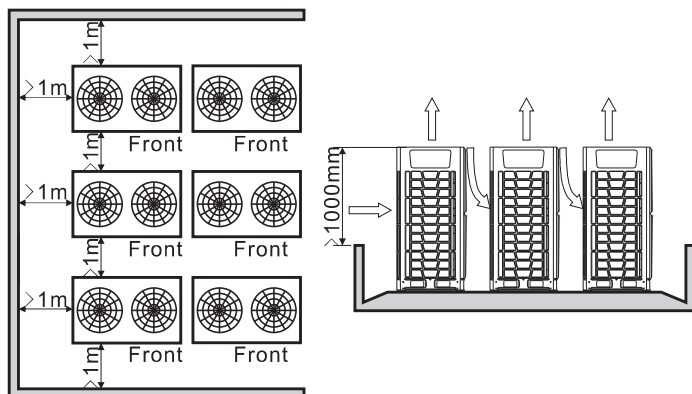

Fig. 3.12 More than 2 rows
- 6) When outdoor units are lower than surrounding barriers, please see Fig. 3.12; the arrangement is similar with the situation when outdoor units are higher than surrounding barriers, but to prevent the thermal exchange effect is influenced by outdoor hot air, a wind scooper shall be equipped to radiating cover of the outdoor unit, as shown in Fig. 3.12. The height of wind scooper is H-h, and the scooper shall be made by the user in the field.